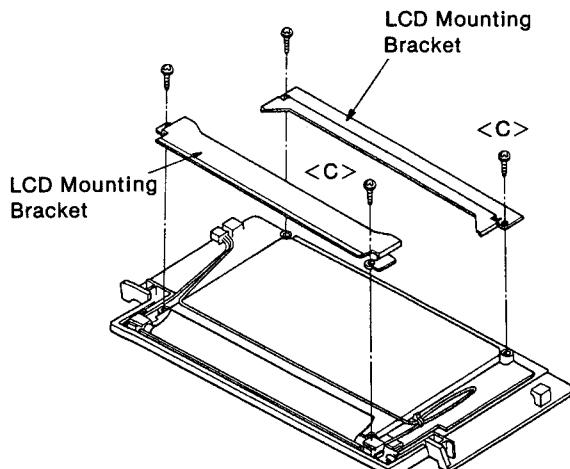

Figure 31
- (9) Remove four screws <C> ($2.6\phi \times 6mm$) and then remove LCD mounting brackets as shown in Figure 31.